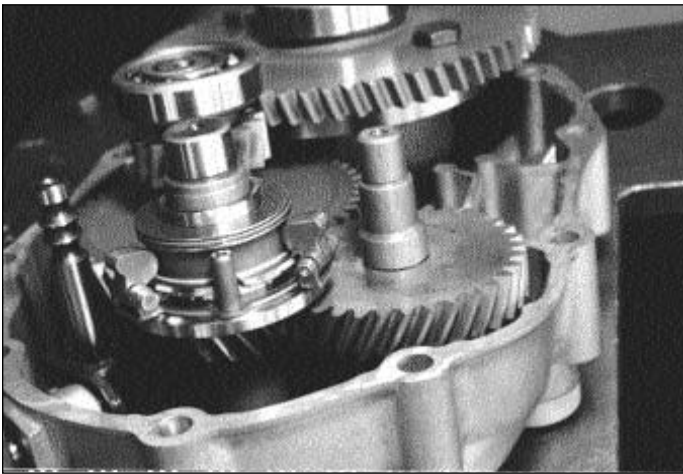

Figure 47 - Install Counter Shaft Assembly
- Apply grease to the bore of the counter gear and place it over the spacer. Slide the counter shaft through the gear, spacer, and into the case bore. See Figure 47.